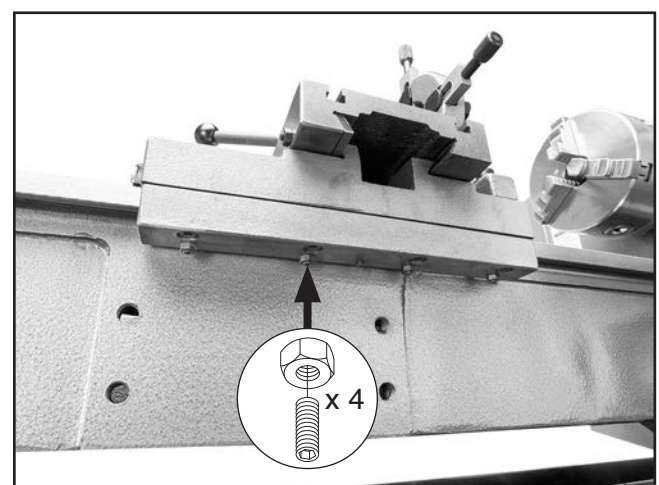

Figure 128. Location of saddle gib set screws and jam nuts.
- Without turning gib set screws, loosen (4) gib jam nuts shown in **Figure 128**.
- Make adjustments in small and equal increments to (4) gib set screws (see **Figure 128**), then test movement of slide by rotating handwheel.